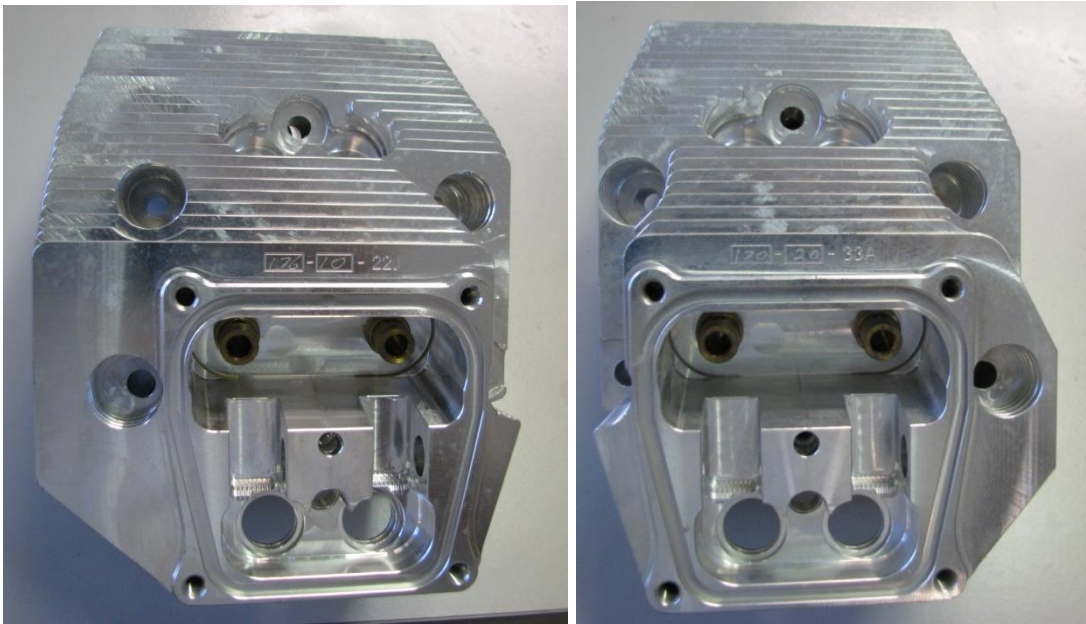

Figure 147 – Cylinder Head Comparison (2200 head on left, 3300 on right).
- Note that the 2200 engine uses two different cylinder heads – one for cylinders 1 & 4 and another for 2 and 3 - Figure 147 refers. The Jabiru 3300 engine uses the same cylinder head for all cylinders – though they are fitted with different induction or exhaust pipes depending on where they are fitted to the engine.